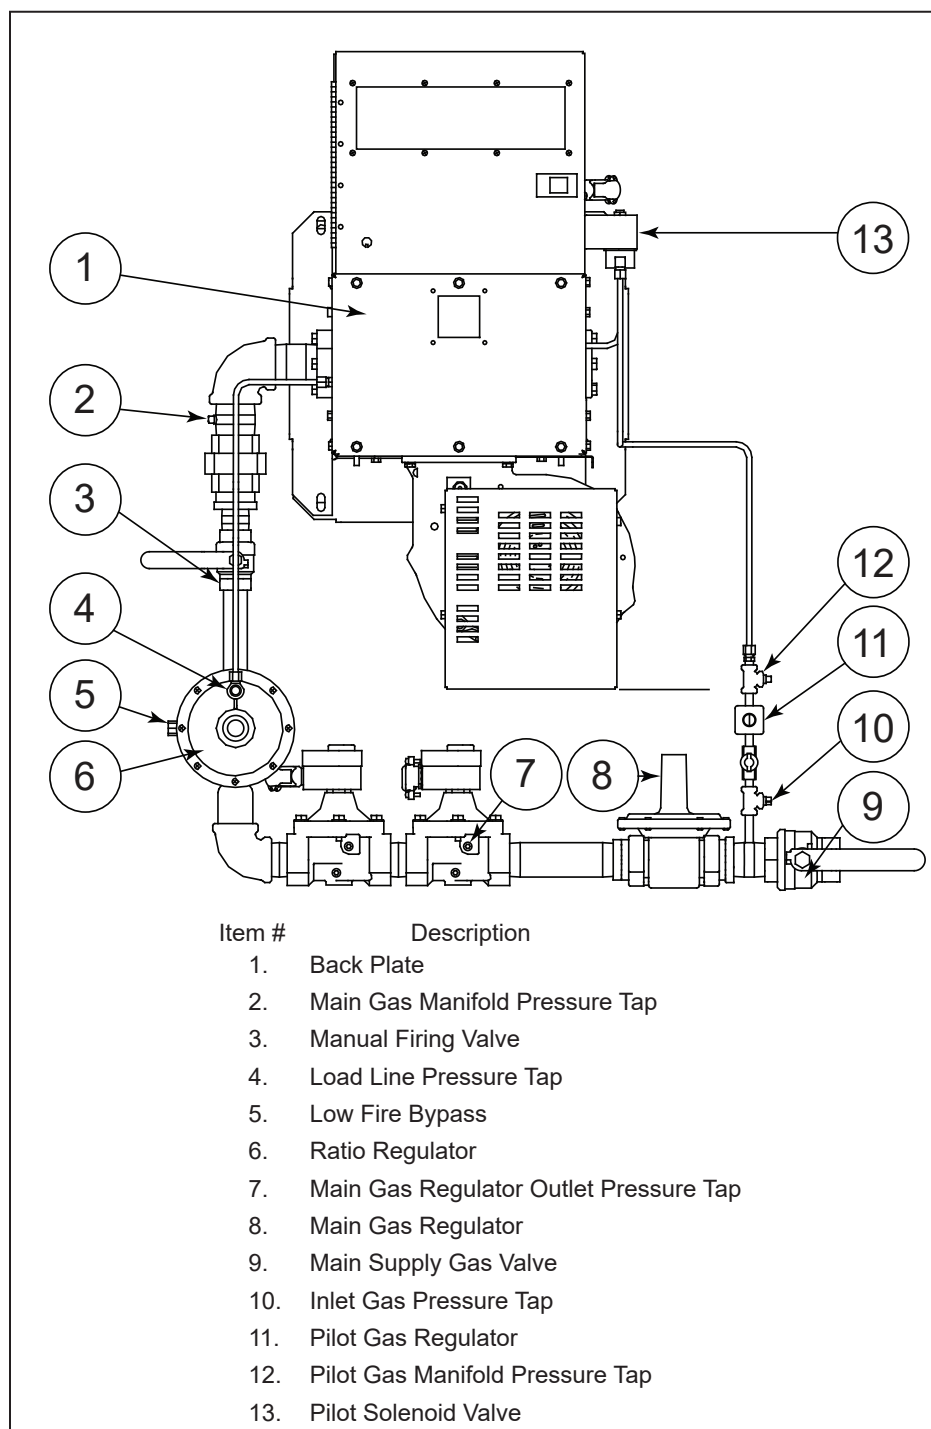

Figure 3. Component and Pressure Tap Locations
- **Before** opening the main supply gas valve, see Figure 3 - item # 9, verify that the inlet pressure is below the maximum inlet pressure specified on the Burner Rating Label, see Figure 1.
Refer to Figure 3:
- Close manual firing valve - see Figure 3, item # 3
- Open main Supply gas valve - see Figure 3, item # 9
- Open Manifold Gas Shut-off Valve, see Figure 3 - item # 3
- Use the sight glass on the back plate of the burner to look at the low fire. If light is visible through all of the holes in the burner plate, the low fire is set within the range of operation of the burner. If light is not visible coming through all of the holes, then the low fire is too low and the low fire bypass located on the side of the ratio regulator, see Figure 3 - item # 5, needs to be opened (counter-clockwise to open, clockwise to close).
- Use another manometer to check the main gas regulator outlet pressure on the upstream side of the most upstream solenoid valve, see Figure 3 - item # 7.
- Use a manometer to check the manifold pressure near where the valve train attaches to the burner, see Figure 3 - item # 2.
- Use another manometer to check the load pressure on the ratio regulator, see Figure 3 - item # 4.
- Close main supply gas valve, see Figure 3 - item # 9.